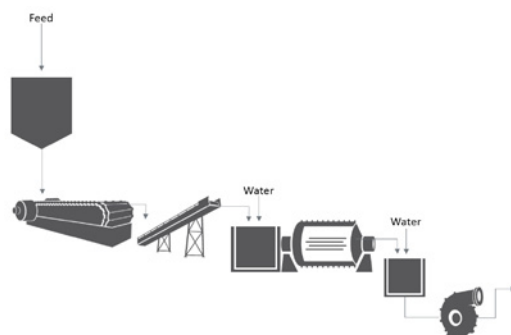

Figure 8
1. Open circuit: The material is fed into the mill at a rate calculated to produce the correct product in one pass, typical circuit shown in Figure 8. Open circuits are rarely used in mineral processing applications as there is no control on the required product size